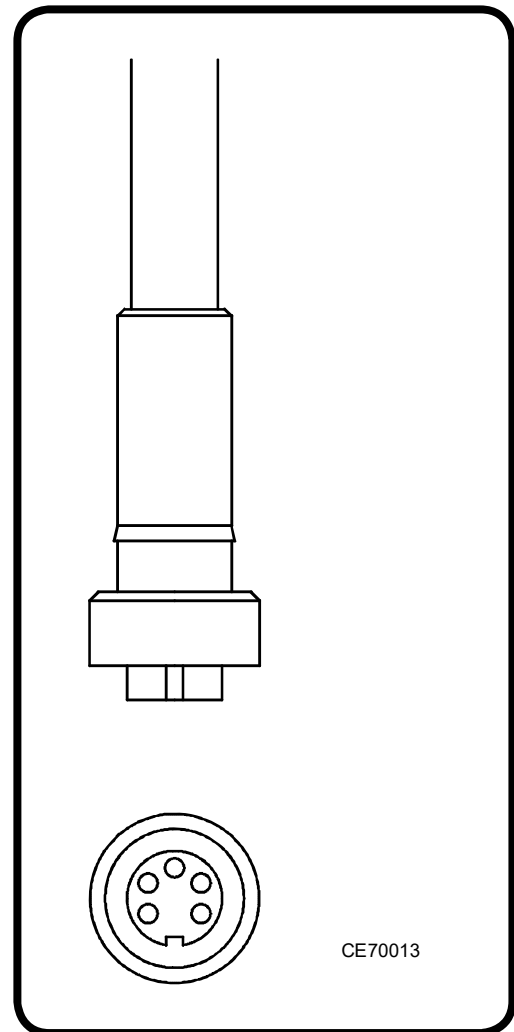

Figure 6: Installing the Burner Cord
- (4) Refer to Figure 6
- (5) Line up the key in the receptacle with the slot in the cord.
- (6) Tighten the electrical cord when in position.